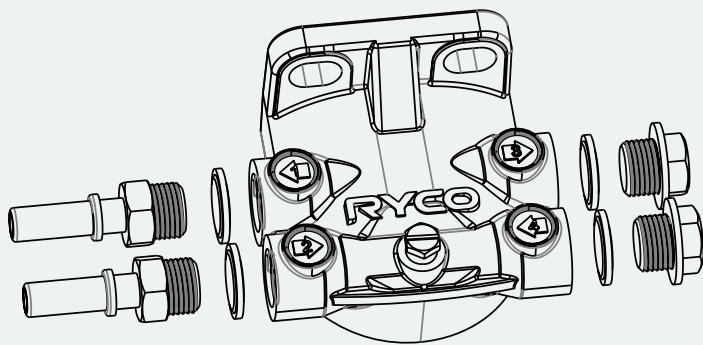

FIGURE 2
- 3 Install the Ryco fuel water separator head with metal quick connectors, blanking plugs and rubber bonded washers, as per FIG 2. Tighten blanking plugs (on Port 3 & 4) and quick connectors (on Port 1 & 2).